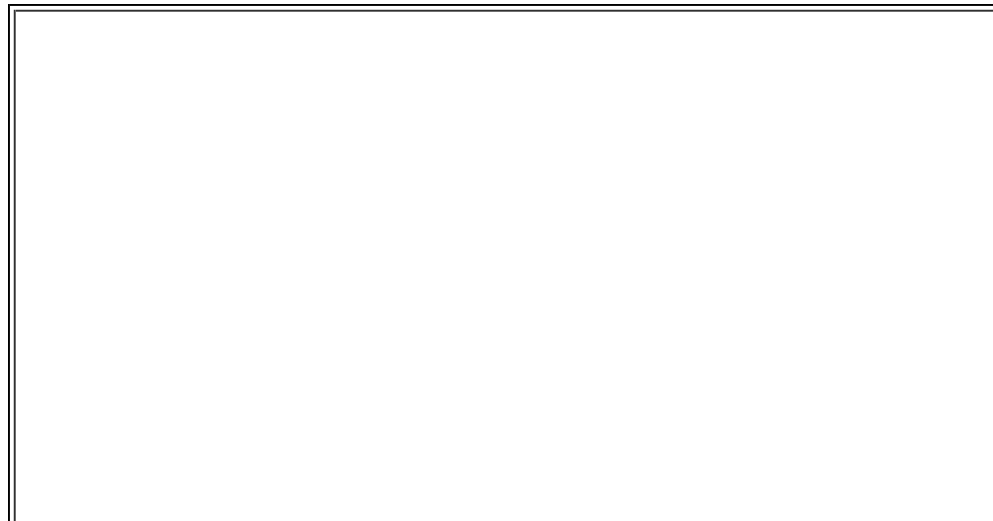

Figure 3: Harness Routing Inspection Point 2.
6. If clearance can't be achieved or there is a rub point at the clutch pedal (Figure 3, Item 1) re-position the harness up and to the left (driver side) and secure to the main IP harness. See Figure 4. **NOTE: Ensure tie strap is wrapped around a taped area and not bare wires.**